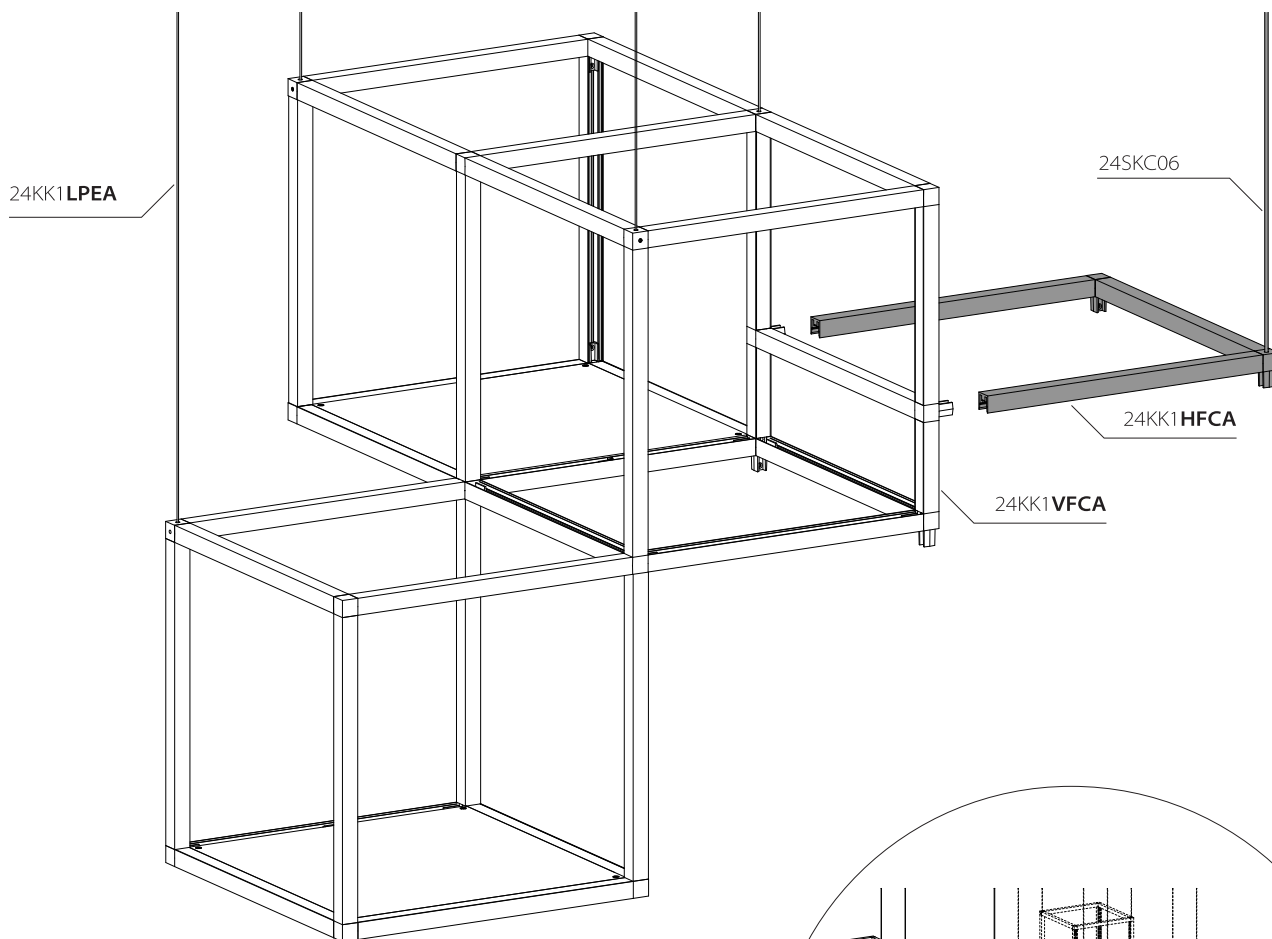

Fig. 9a
- 18a. Install 24KK1HFCA to 24KK1VFCA in orientation shown in Fig. 9a. Install 24SKC06 to hanging corner and tighten set screw with included Slotted Screwdriver.